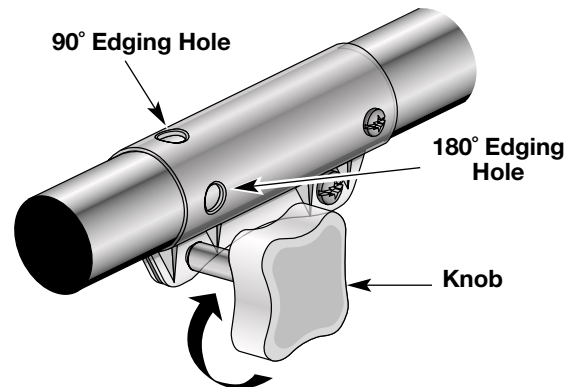

Fig. 9
3. Turn the knob clockwise to tighten (Fig. 9).
For edging when using the line head cutting attachment with Click-Link® models, lock the release button of the cutting attachment into the **90° edging hole** or the **180° edging hole** (Fig. 9). The edger add-on should be installed with the release button in the **primary hole**.